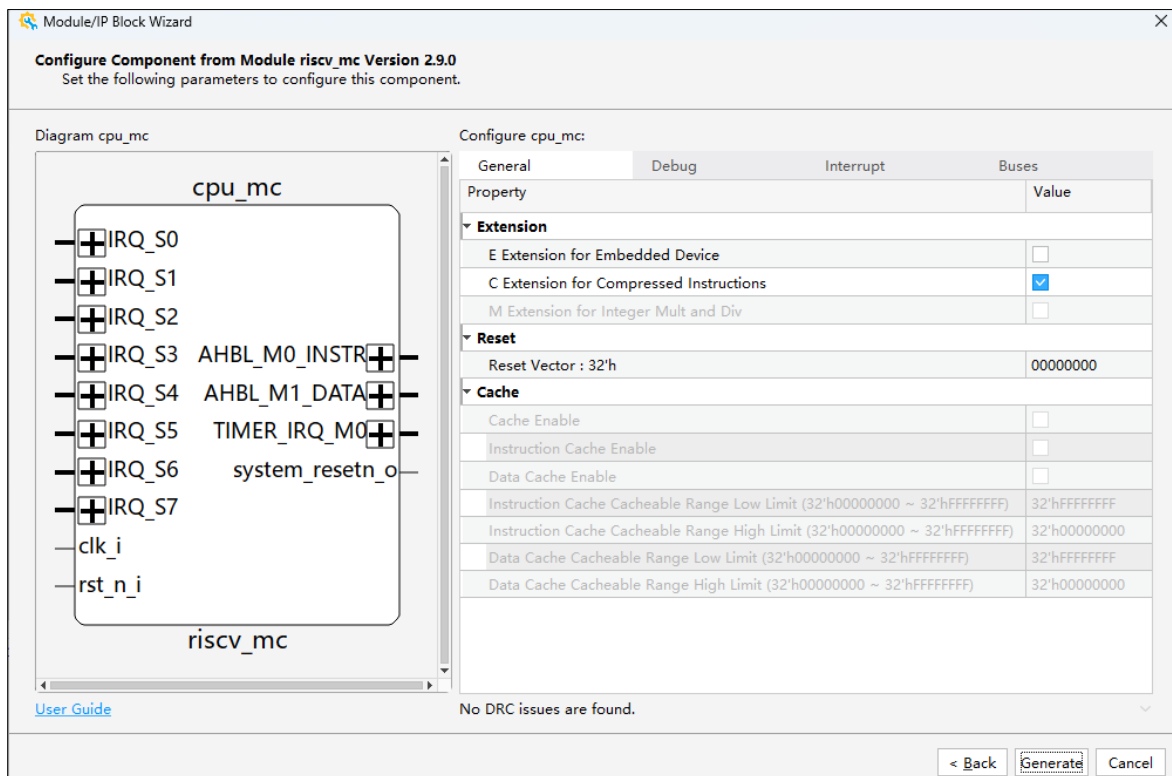

Figure 3.2. Configuring Parameters
2. Configure the parameters, as shown in Figure 3.2. Click **Generate**.
1. In Lattice Propel Builder, enable **Soft JTAG** in the Module/IP Block Wizard GUI (Figure 3.2) when generating the IP.